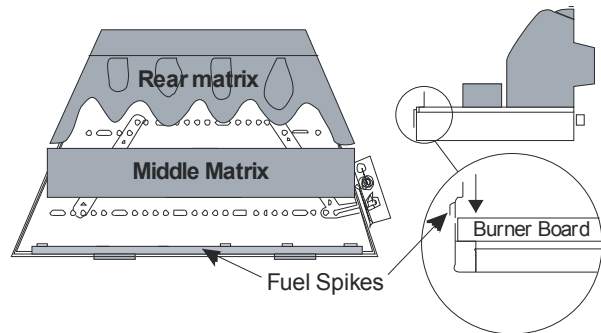

Figure 29
- Place the **middle matrix** onto the burner board so that it keys into the triangular depression on the board (See Figure 29). Bring the **rear matrix** forward to touch the middle matrix.
- Insert the front fuel spike centrally between the board and the front of the metal tray (see Figure 29).